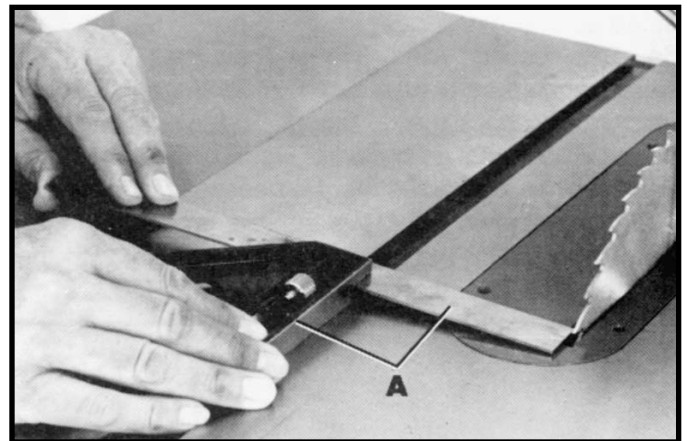

Fig. 119
2. Place a combination square (A) Fig. 119, on the table with one edge of the square in the miter gage slot, as shown, and adjust the square so the rule just touches one of the teeth on the saw blade at the forward position, as shown in Fig. 119. Lock the square in this position.